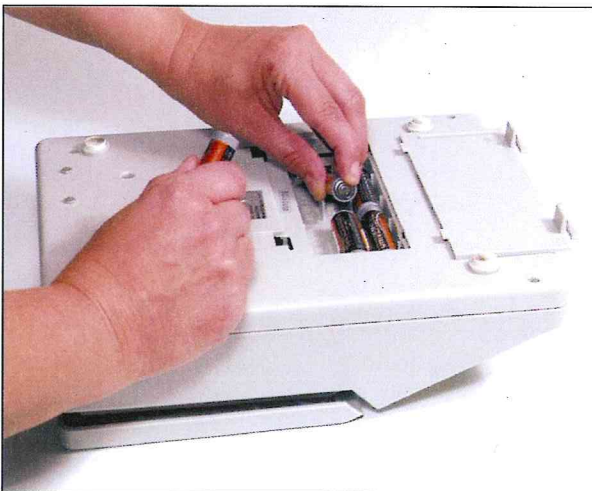

Figure 04 - Inserting the batteries
1. Insert 6 batteries (Fig.04).